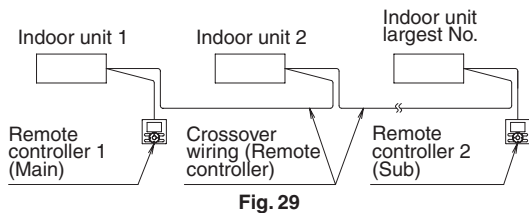

Fig. 29
- When using the group control and the 2 remote controllers control at the same time, connect the remote controller 2 (Sub) to the indoor unit at the end of the crossover wiring (the largest No.). (Refer to Fig. 29)